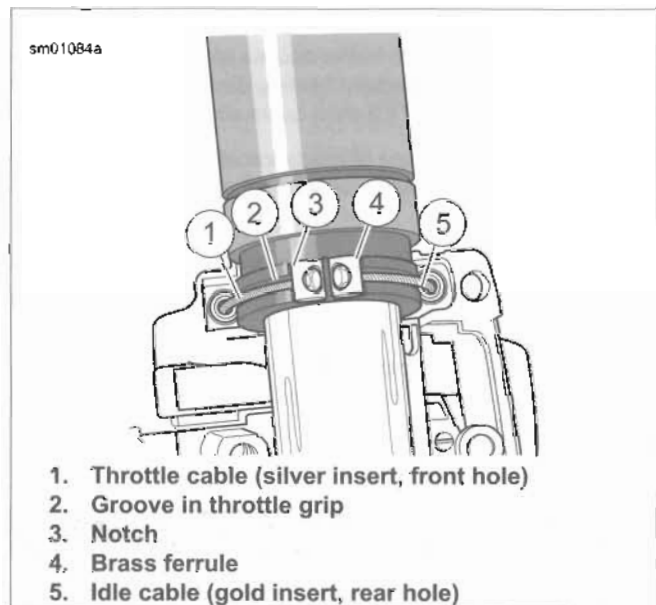

Figure 7-115. Throttle Cable Attachment
8. See Figure 7-115. Remove the brass ferrules (4) from the notches on the inboard side of the throttle control grip. Remove the ferrules from the cable end fittings.
6. See Figure 7-115. Position lower switch housing beneath the throttle control grip. Install the brass ferrules (4) onto the cable so that the end fittings seat in the ferrule recess. Seat the ferrules in their respective notches (3) on the throttle control grip. Verify that the cables are captured in the grooves (2) molded into the grip.